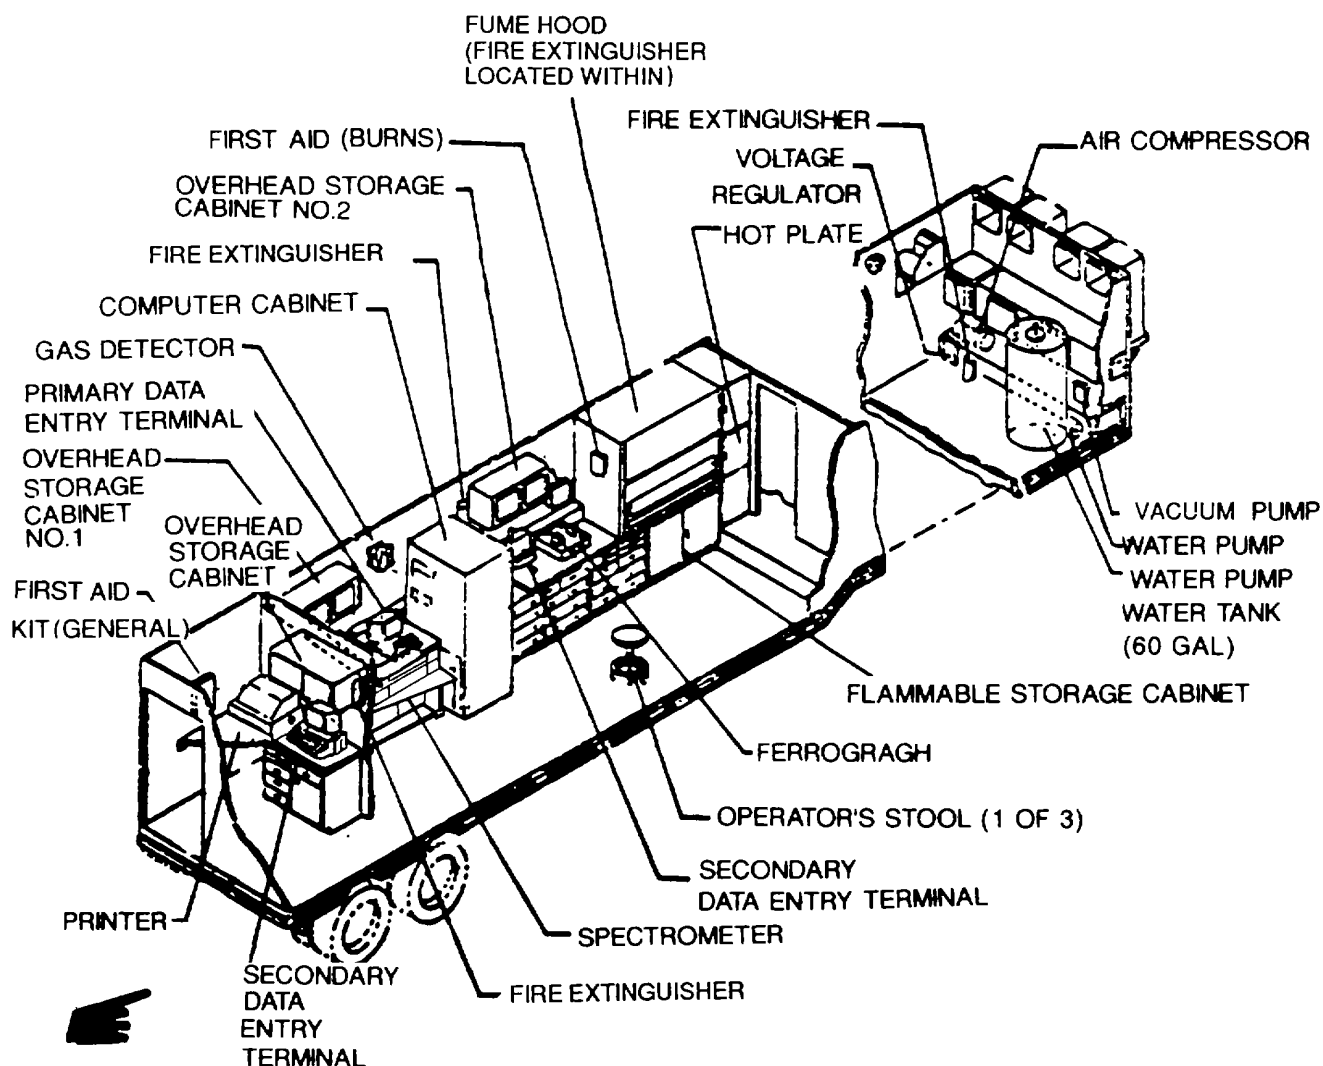

Figure 1-4. Roadside Interior
c. *Roadside Interior (Figure 1-4).*